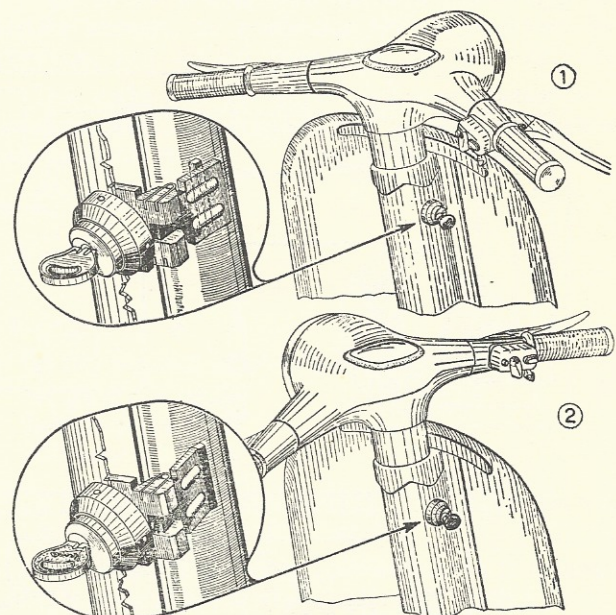

Fig. 7 - Security lock
**Steering Lock.** - A suitable security lock is arranged on the frame, near the handlebars. Turning the key counter-clockwise and the handlebars to the left, the lock engages the lugs welded on the steering column, so that the machine can only turn around. Turn the key clockwise and the handlebars back to normal position for releasing the steering system (see Fig. 7). Do not attempt to ride the machine unless the key is in, and remains in the lock, and the handlebars are moving freely.